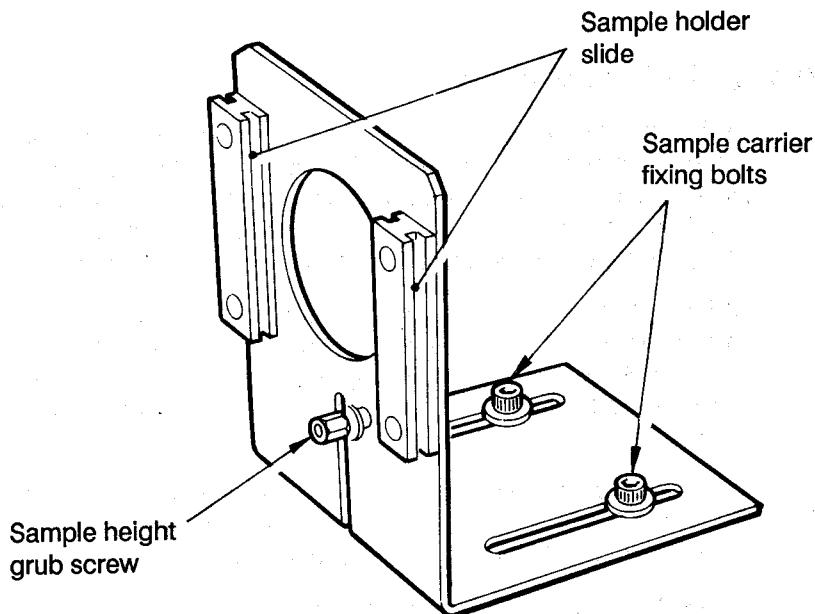

Fig 8.3 Sample carrier alignment
To align the sample carrier proceed as follows (see Fig 8.3):
- (g) If the beam is slightly above or below the sample aperture hole, the sample height may be adjusted by loosening the grub screw on the carrier (see Fig 8.3) and raising or lowering the sample as necessary. However, this should be unnecessary as the height is factory set according to the beam height before despatch.